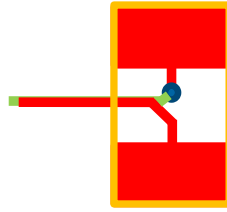

Figure 142. Recommended Layout Pattern for Current-Sense Traces Regulator
- (12) The current-sensing traces must be laid out very carefully since they carry tiny signals with only tens of mV. For the current-sensing traces close to the power sense resistor (R_{SENx}), the layout pattern shown in Figure 142 on page 143 is recommended. Assuming the R_{SENx} is placed on the top layer (red), route one current-sense connection from the middle of one R_{SENx} pad in the top layer under the resistor (red trace). For the other current-sensing trace (green trace), from the middle of the other pad on R_{SENx} top layer, after a short distance, via down to the second layer, and route this trace right under the top layer current-sense trace.
- Current-sensing resistors, sometimes called “shunts”, require special considerations during their layout. These devices must be connected Kelvin style as shown in Figure 142 on page 143. The sensed voltage must be sensed exactly at the shunt terminals. A common problem encountered routing shunts, is that if one side of the shunt is connected to a common terminal, such as GND or BAT12, a layout tool does not flag an error if this connection is not geometrically correct! Verify that the shunts are Kelvin connected. Specific to the ISL78224, each of the four phase resistors measure current into or out of BAT12, and the flyback shunt measures current into ground. Voltages measured on shunts are always necessarily small. They are also the most common victim seriously enough affected by a layout error to render the layout inoperable. Do not route shunt traces near aggressors such as phase nodes. Shunt routing and the controller IC itself should be placed favoring the lower noise BAT12 side of the board. Current-sense trace pairs should be placed side by side or one on top of the other as shown in Figure 142.